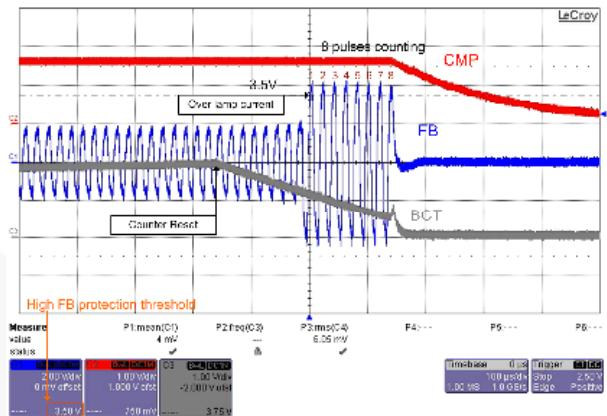

Figure 62. FB-High Protection
**High-FB Protection:** If the minimum of the rectified OLP voltages( $V_{OLP}^{max}$ ) is more than 3.5V, the counter starts counting eight rectified OLP pulses in normal mode, then the IC enters shutdown, as shown in Figure 62. This counter is reset by detecting the positive edge of BCT. This protection is disabled in striking mode to ignite the lamps reliably.